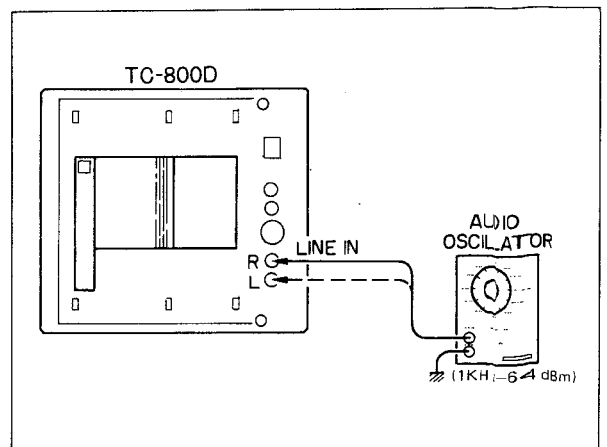

Fig. 4
1. Connect the VTVM to the LINE OUT jacks shown in Fig. 4.